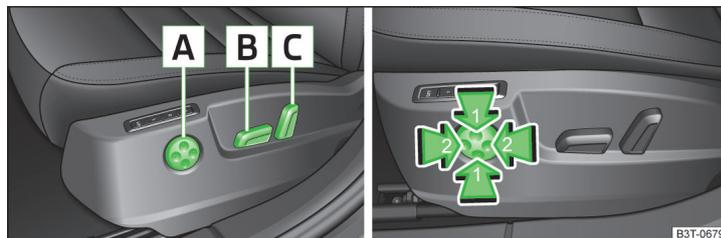
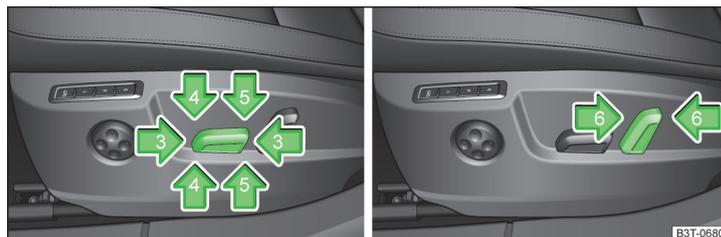

Fig. 67 Adjusting controls / lumbar support
Fig. 68 Setting: Seat pad / backrest
- Push the switch **B** » Fig. 67 in the direction of one of the arrows 3 » Fig. 68.
- Push the switch **B** » Fig. 67 in the direction of one of the arrows 5 » Fig. 68.
- Push the switch **B** » Fig. 67 in the direction of one of the arrows 4 » Fig. 68.
- Push the switch **C** » Fig. 67 in the direction of one of the arrows 6 » Fig. 68.
- Push the switch **A** in the region of one of the arrows 2 » Fig. 67.
➤ Push the switch **A** in the region of one of the arrows **1** » Fig. 67.